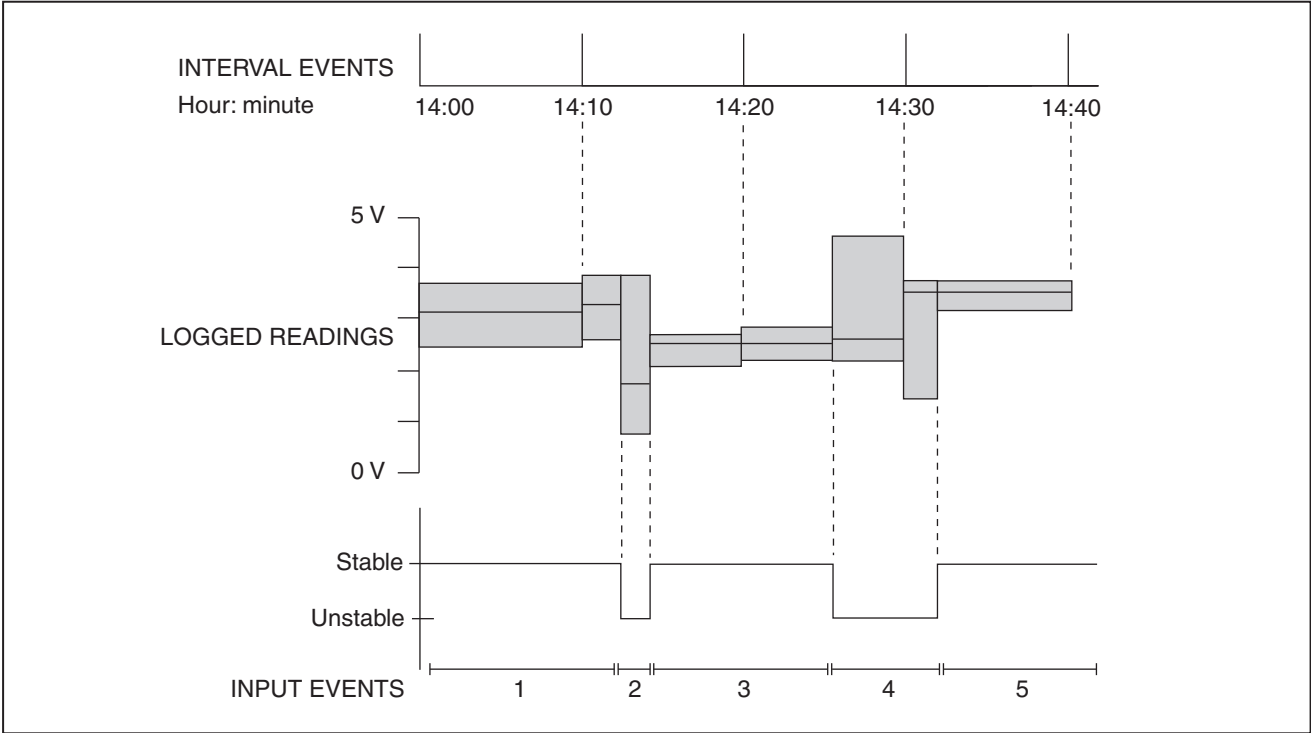

Figure 2. Interval Events and Input Events
Input events are described as either *stable* or *unstable*. Stable input events contain readings that fall inside the user-defined settings. Unstable input events contain readings that fall outside the user-defined settings. See Figure 2.
- *Interval events* are logged when the user-defined logging interval has ended. Interval events can be thought of as a series of readings divided into sections by time. See Figure 2.